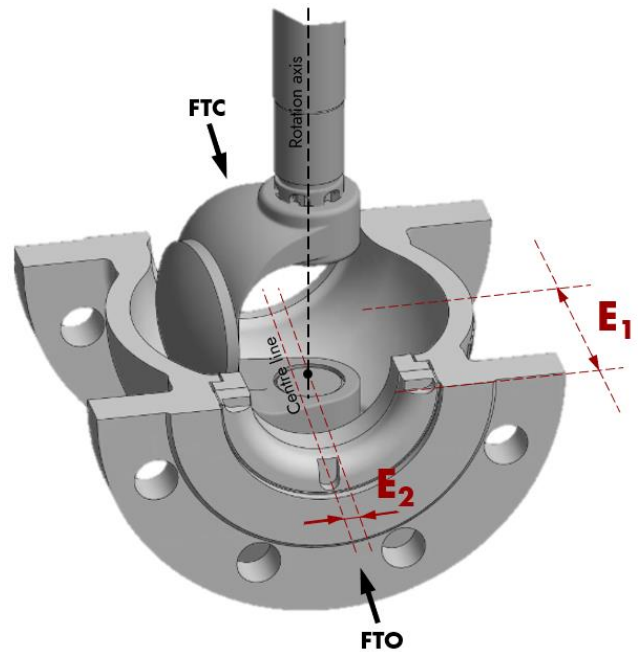

Fig. 11 Double-Eccentric Principle (VDI/VDE 3844)
- **Flushing connections** for the plug, trunnion bearing, retainer ring and shaft (see fig. 11)